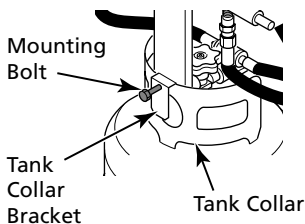

Figure 3 - Assembling Heater
1. Place heater onto tank with tank collar bracket over tank collar (see Figure 3). Mounting bolt should be positioned to the outside of tank collar.